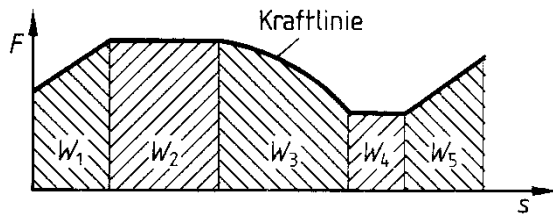

Figure 2.9: force/distance graph ( $F,s$ -graph)
Mechanical work can be shown via a **force/distance graph** ( $F,s$ -graph). Figure 2.9 is such a graph showing a changing and occasionally constant force over a specific distance:
**Total work**  $F_{ges} = W_1 + W_2 + W_3 + \dots$  in Nm, J (see figure 2.9)